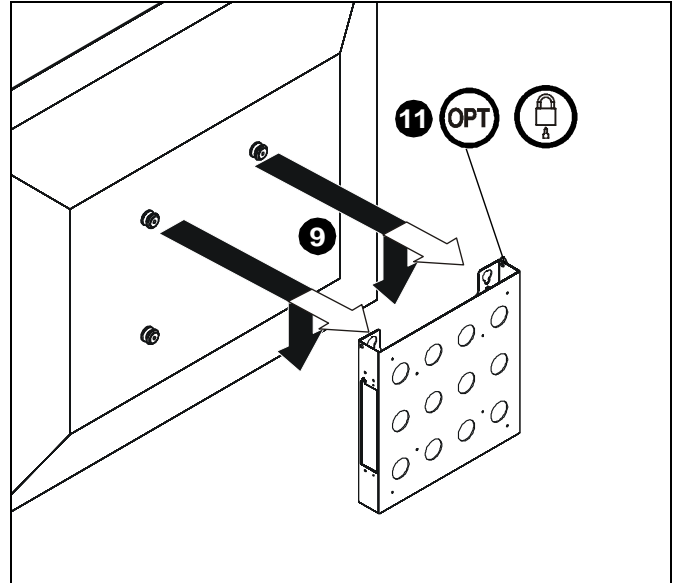

Figure 6
9. With the aid of another person, lift display up to CPU holder and install mounting buttons into teardrop mounting holes on CPU holder. (See Figure 6)
11. (Optional) Install padlock (not included) through latching flag hole and CPU holder hole. (See Figure 6)